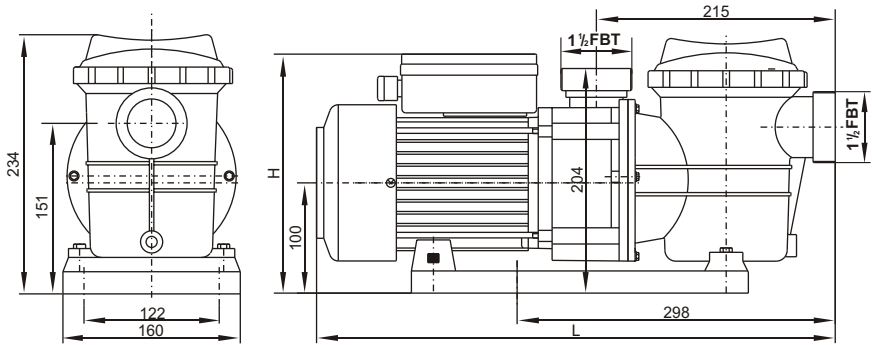

Fig.2
- Pumps must be level installed, Dimensions and position of the pump for supporting and fixing the pump within this space (Fig. 2).